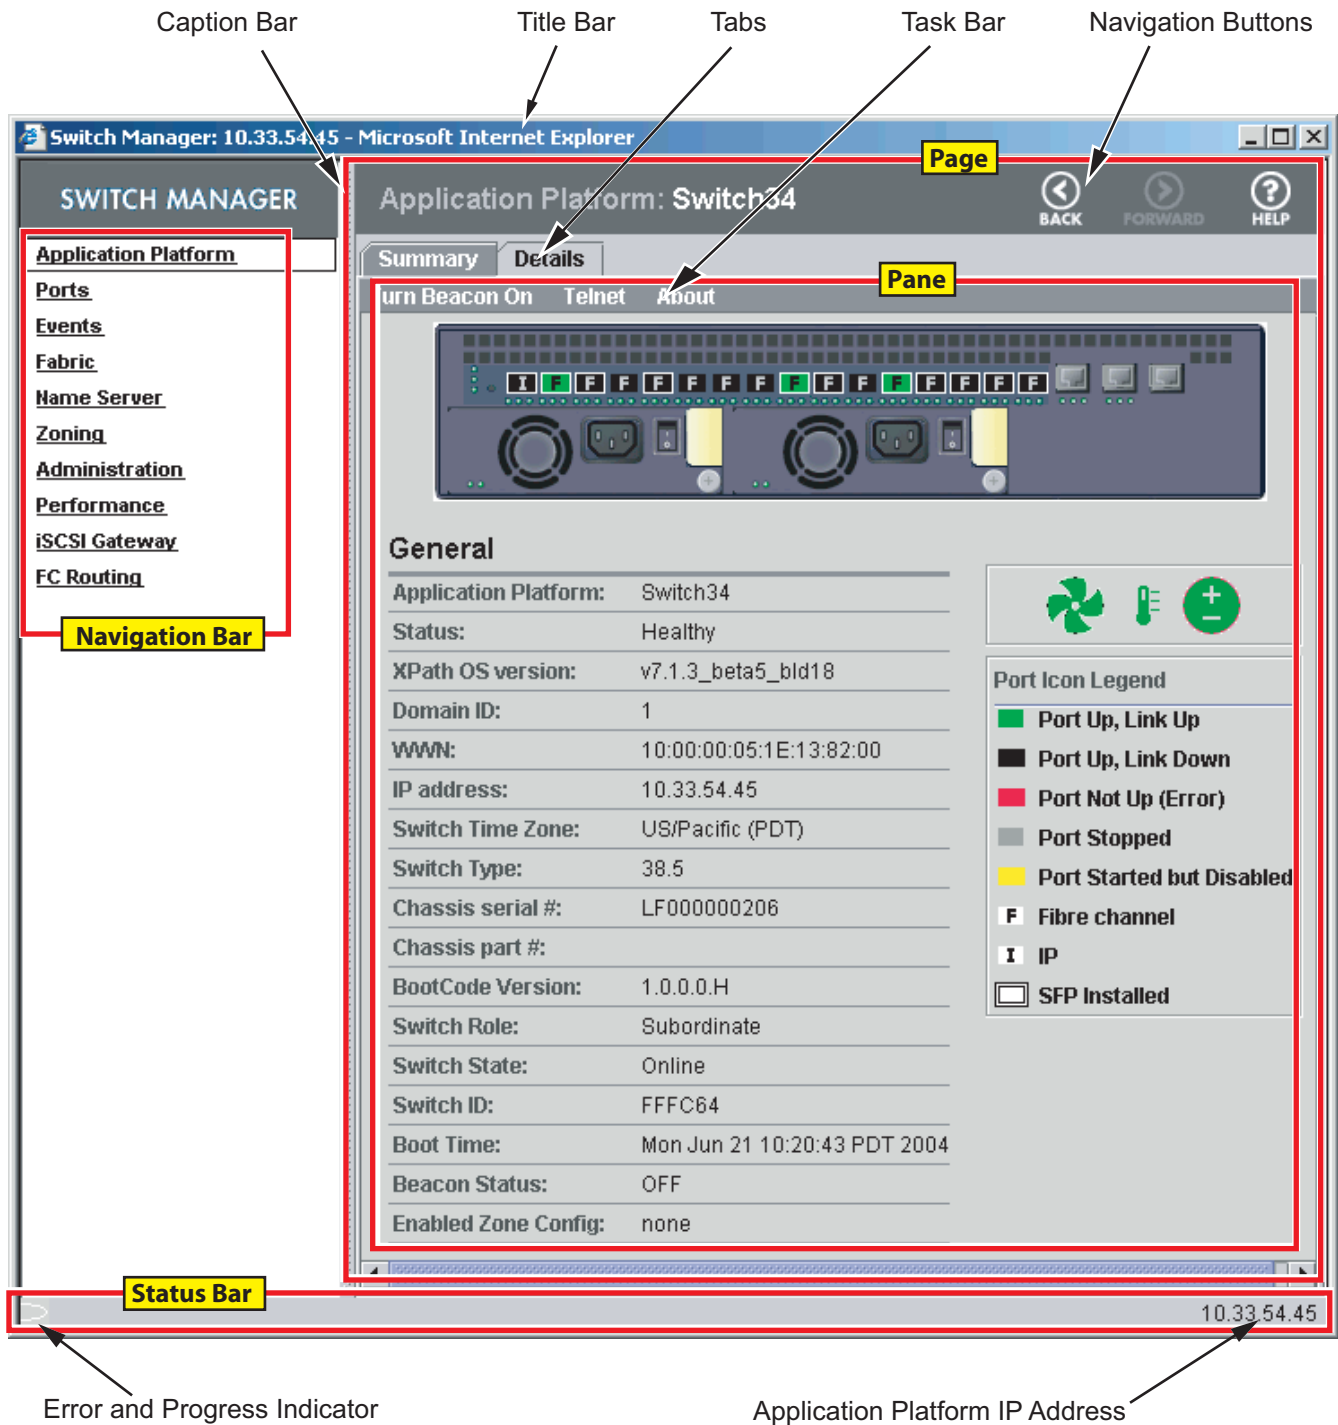

Figure 3 Switch Manager main window and components
The Switch Manager component of Advanced Web Tools provides more detailed information about the MP Router shown in the Switch View. Figure 3 shows an example of the Switch Manager window.
- **Hyperlinks:** When an item is displayed in blue underlined text, you can click it to open the drill-down page to see more detailed information about that item. For example, in Figure 3 on page 16, the enabled zone configuration name is a hyperlink that, when clicked, opens the zone configuration drill-down page.